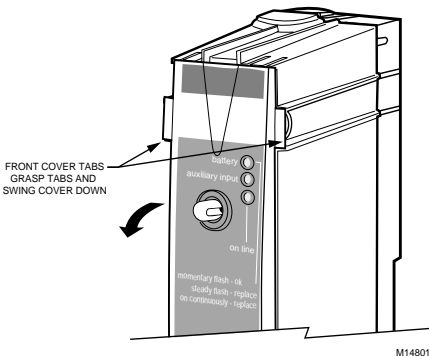

Fig. 2. Removing front cover.
1. Unsnap the front cover from the W8735B by grasping the tabs near the top of the module. See Fig. 2.